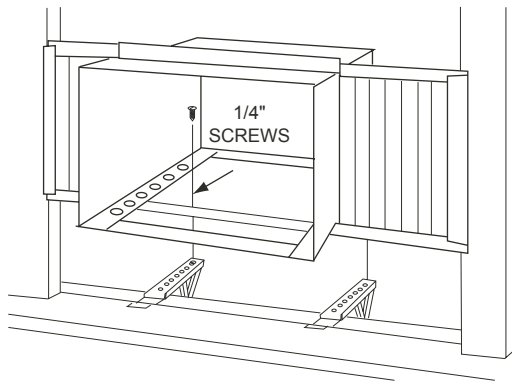

FIGURE 14 — CABINET INSTALLATION
16. Secure the cabinet to the brackets using three ¹/₄-in. screws (provided) for each bracket. Check to make sure cabinet is angled slightly downward. Adjust leveling screws if necessary. See Fig. 14.